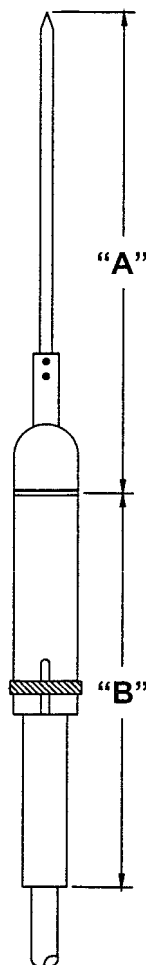

Figure 1. DB205 Antenna
2. Follow across to the columns "A" (length of whip) and "B" (length of skirt) to find the lengths. See Figure 1.